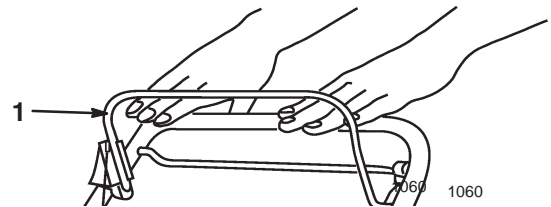

Figure 10
2. Release the blade control bail (Fig. 10). Both the engine and the blade will stop. Contact your Authorized Service Dealer immediately if they do not.